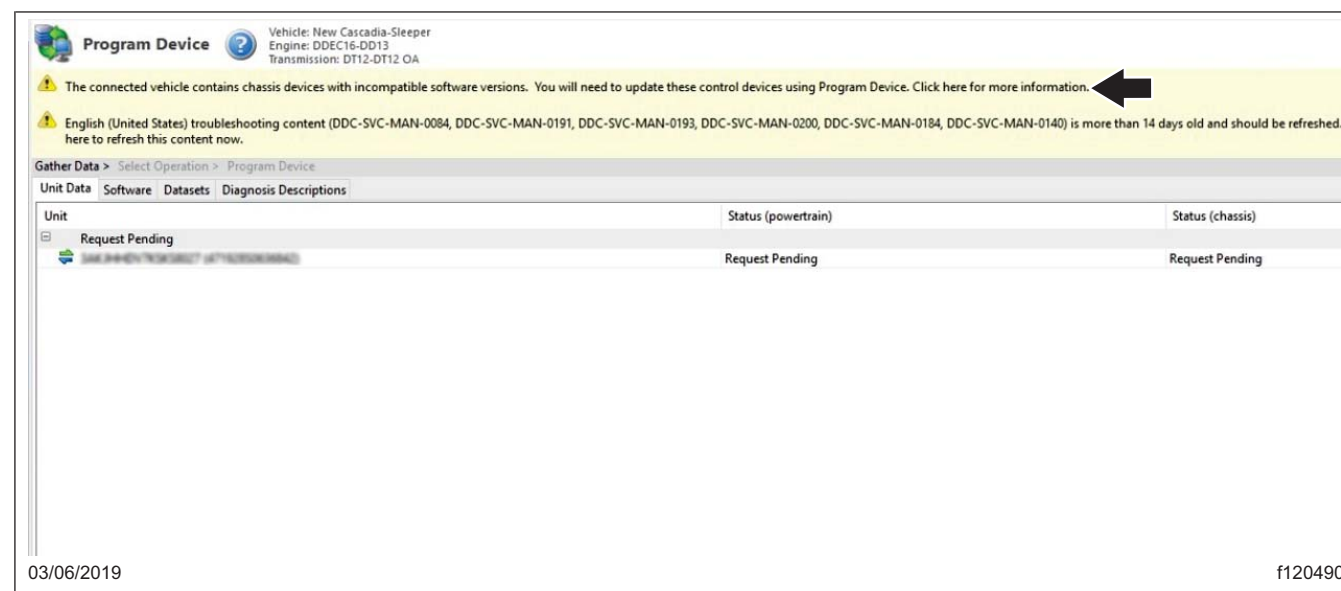

Fig. 12, Clicking on the Banner Message
- 13.1 Click on the banner message. See Fig. 12.